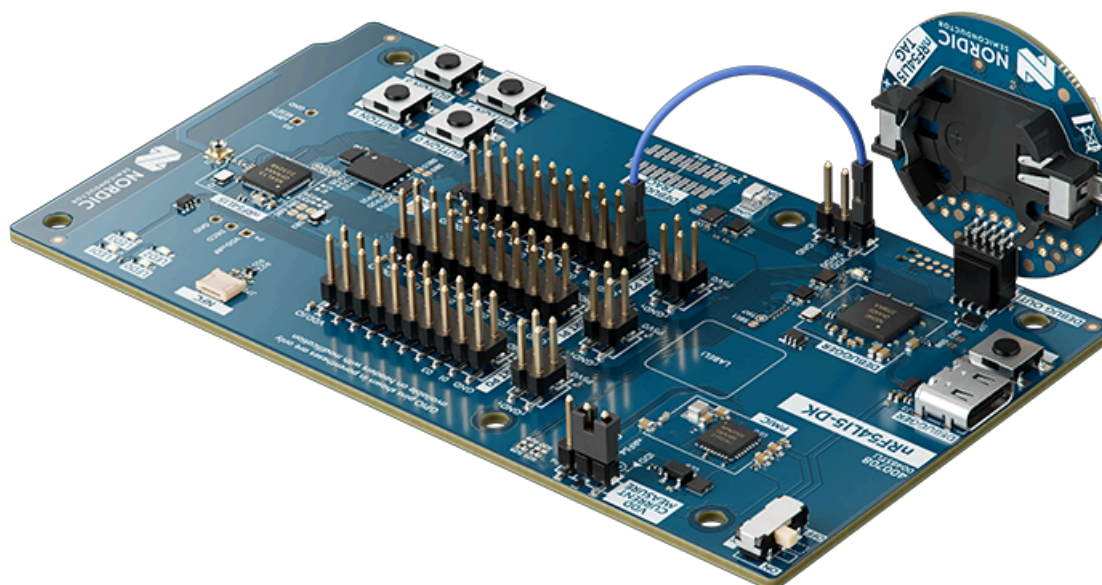

Figure 14: Option 2: Connect nRF54L15 Tag to an nRF54L Series DK and power without battery
- Connect **VDD IO** from the *GPIO* header to **VDD SWD0** on the DK. See Figure 14: Option 2: Connect nRF54L15 Tag to an nRF54L Series DK and power without battery on page 18.
- Apply 3.0 V to **VDD SWD0** on the DK. See Figure 14: Option 2: Connect nRF54L15 Tag to an nRF54L Series DK and power without battery on page 18.